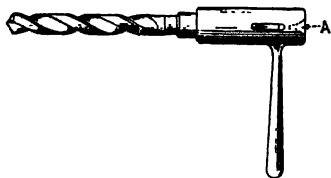

Fig. 15-20. Drill holder fits the taper shanks of drills and machine reamers. Has a large center hole at A and is provided with a suitable handle
**Operation of Drilling the Hole.** Select a drill somewhat under-size ( $\frac{1}{64}$  or  $\frac{1}{32}$  in.), to allow for reaming, and a drill holder (Fig. 15-20) to fit the taper shank of the drill. Be sure that both the taper